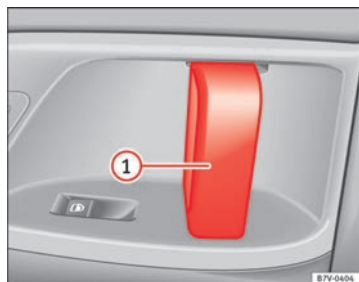

Fig. 50 On the sliding door, door handle ①
Opening the sliding door from the inside.	When the sliding door is released, open the door fully by pulling on its interior handle → Fig. 50 ①.